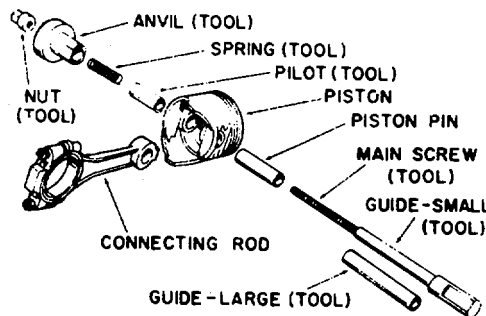

Figure 5-5. Tool Arrangement for Installing Piston Pin
3. Arrange the piston pin remover and installer C- 3724 for installation of piston pin (see figure 5-5).